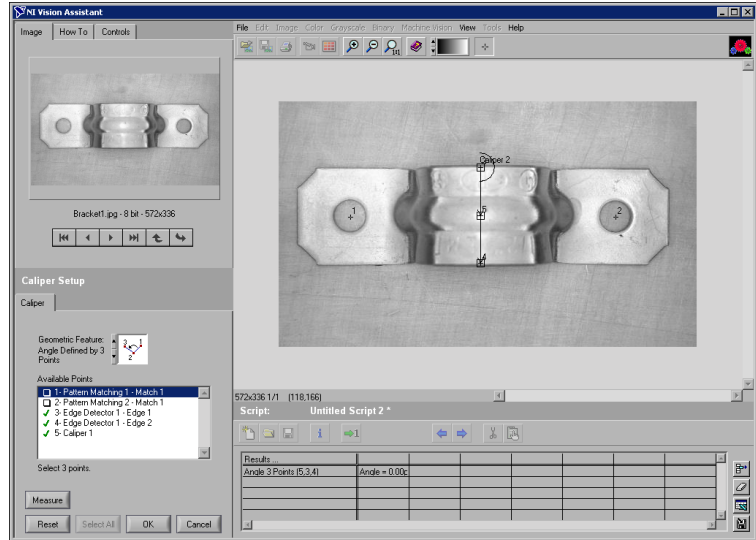

Figure 4-8. Using the Caliper Tool to Collect Measurements
12. Select **Angle Defined by 3 Points** in the **Geometric Feature** listbox. Click points **1**, **5**, and **2**, in this order, to find the third measurement—Bracket Angle—which measures the angle of the bracket arms with respect to a vertex at point 5, as shown in Figure 4-8.
Figure 4-8 shows the image with Bracket Distance and Bracket Angle selected on the image and displayed in the results table.